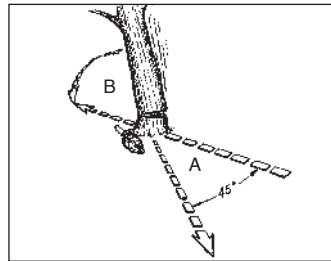

Fig. 11A
WARNING: A retreat path (A) should be planned and cleared as necessary before cuts are started. The retreat path should extend back and diagonally to the rear of the expected line of fall, as illustrated in Fig. 11A
WARNING: As the felling cut gets close to the hinge, the tree should begin to fall. When tree begins to fall, remove saw from cut, stop engine, put chain saw down, and leave area along retreat path (Fig. 11A).